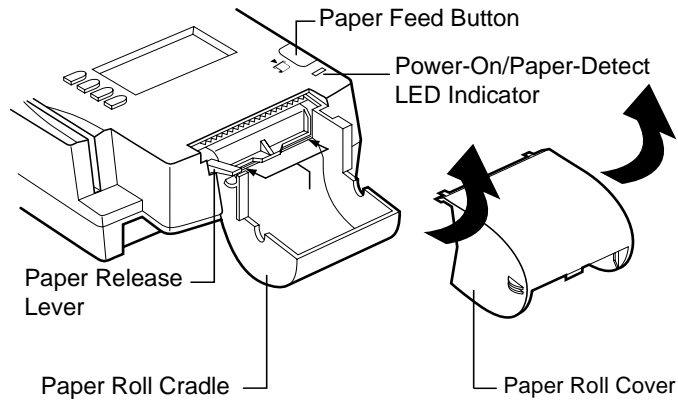

Figure 7 Thermal Printer Features
2. Remove the paper roll cover by lifting it up (Figure 7). Two ridges on the cover’s sides show where to grasp it.
Note: To adjust paper position, lift the small red release lever on the cradle's right side (Figure 7) until it snaps "up." The paper now freely moves in the paper path. When the paper is correctly positioned, lower the lever until it snaps "down."